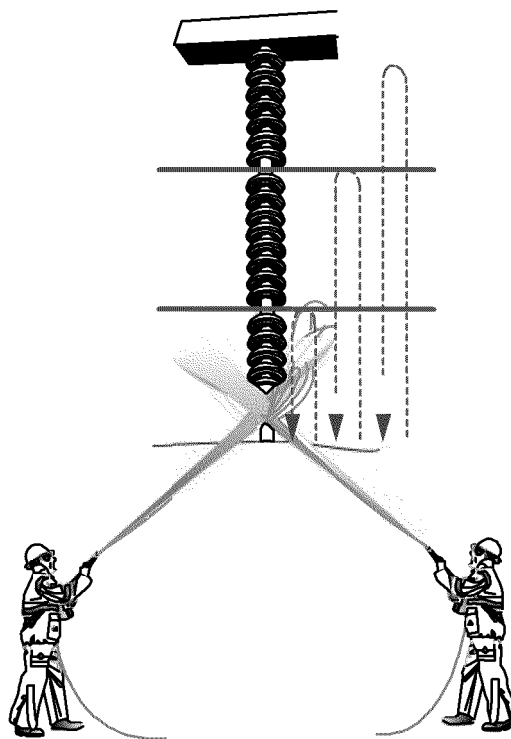

Figure 5-10
- C. Figure 5-10 above shows a post-type insulator energized at 230 kV. Start at the bottom of the post and slowly wash upward one-third the length. Then, rinse down to the bottom. Next, wash two-thirds the length and rinse back to the bottom. Then, wash all the way to the top followed by a thorough rinsing along the entire length to the bottom.